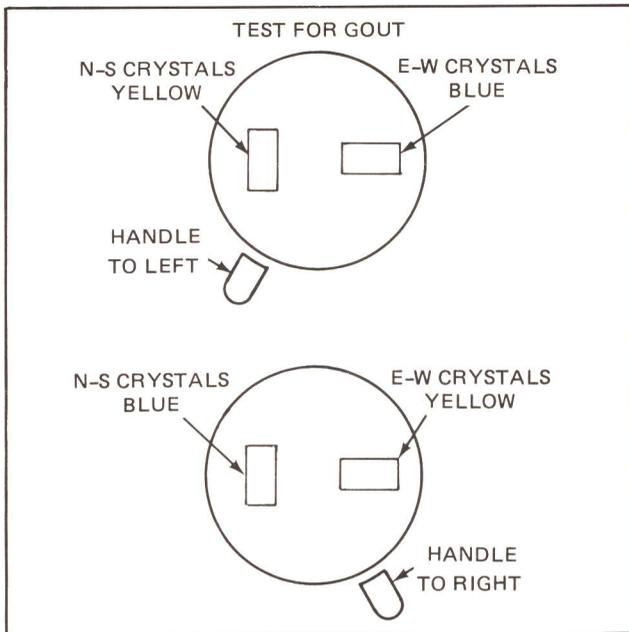

Figure 3.
4. Move Orientation Handle to extreme right position. Now N-S crystals should be blue, E-W yellow. (See Figure 3.)